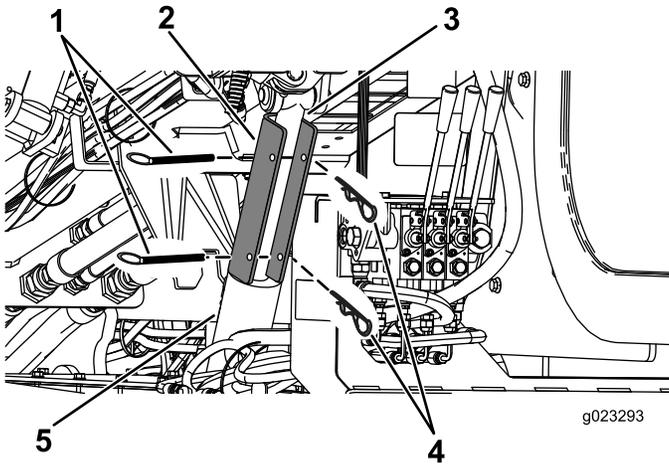

Figure 70
4. Position the cylinder lock over the cylinder rod (Figure 70).
5. Secure the cylinder lock with the cotter pin and clevis pin (Figure 70).
4. Remove the cotter pin and the clevis pin that secure the cylinder lock (Figure 70).